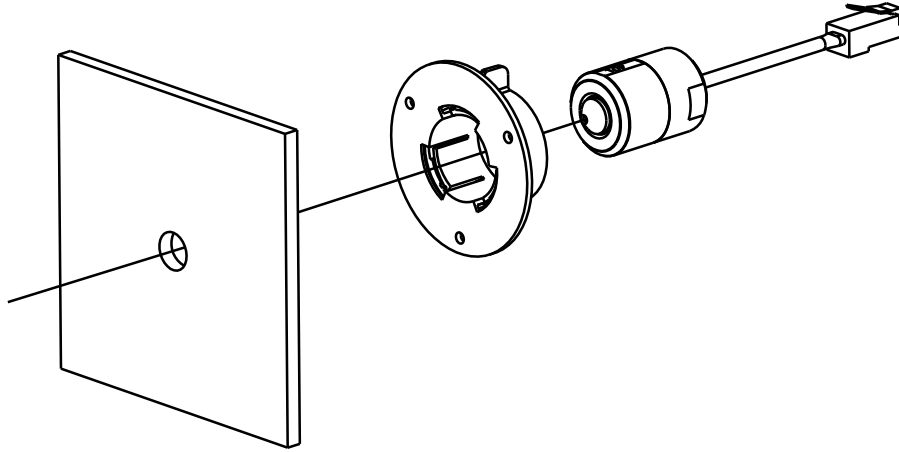

Figure 4-53 Install the Cylindrical Sensor
4. Turn the locking sleeve to fix the sensor. As shown in Figure 4-53.